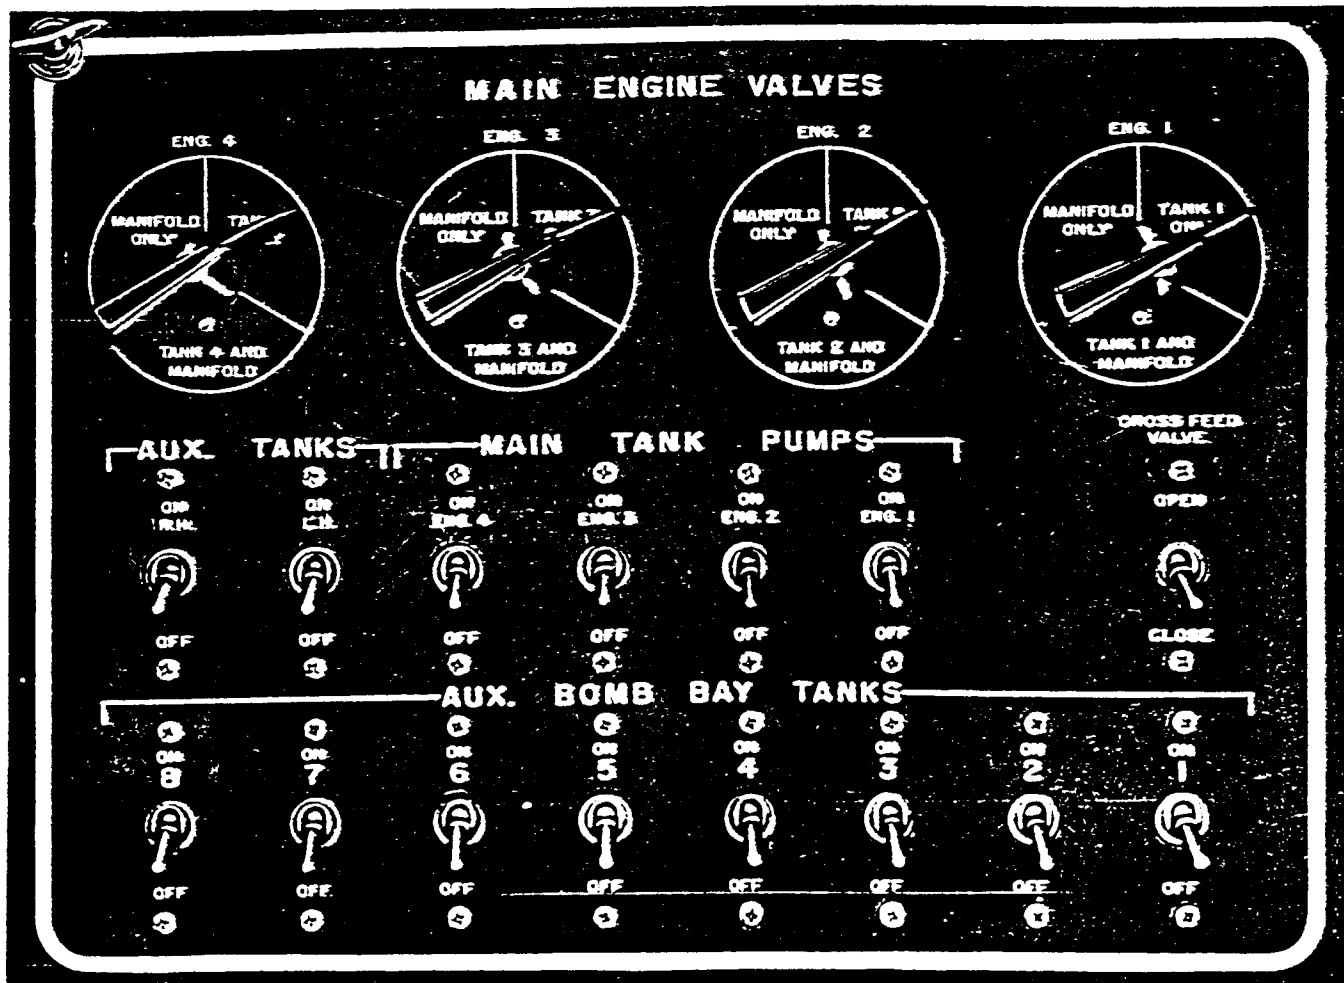

Figure 10. Fuel Controls
(1) DESCRIPTION.- Two electrically-operated, 24 volts, direct current, motor-controlled fuel control valves are incorporated in each engine fuel system. One fuel control valve, normally open, is installed in the main fuel tank supply line and the other, normally closed, is installed in the manifold line. Both fuel control valves operated from a single engine valve switch on the engineer's control panel (see figure 10).
(2) OPERATION.- The "TANK ONLY" position of the main engine valve switch allows both fuel control valves to assume their normal positions; manifold line fuel valve closed and main tank line fuel valve open. The "TANK AND MANIFOLD" position opens both fuel valves, thereby allowing fuel to flow to the engine and also into the manifold line. "MANIFOLD ONLY" position opens the fuel valve in the manifold line and closes the fuel valve in the fuel supply line from the tank.